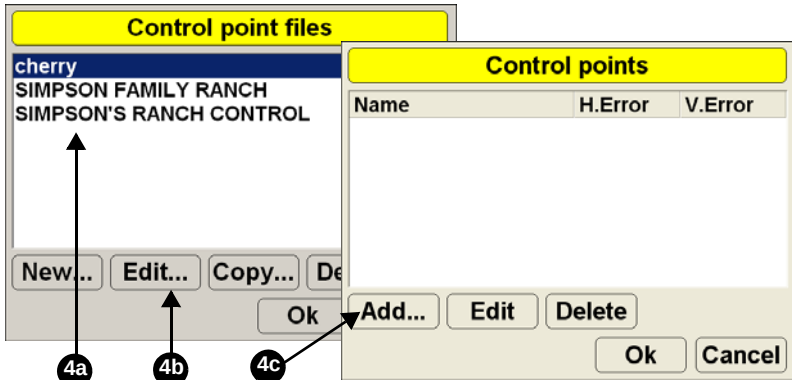

Figure 3-5. Edit Selected File
4. Select the newly created file and press **Edit**. Then press **Add** (Figure 3-5).